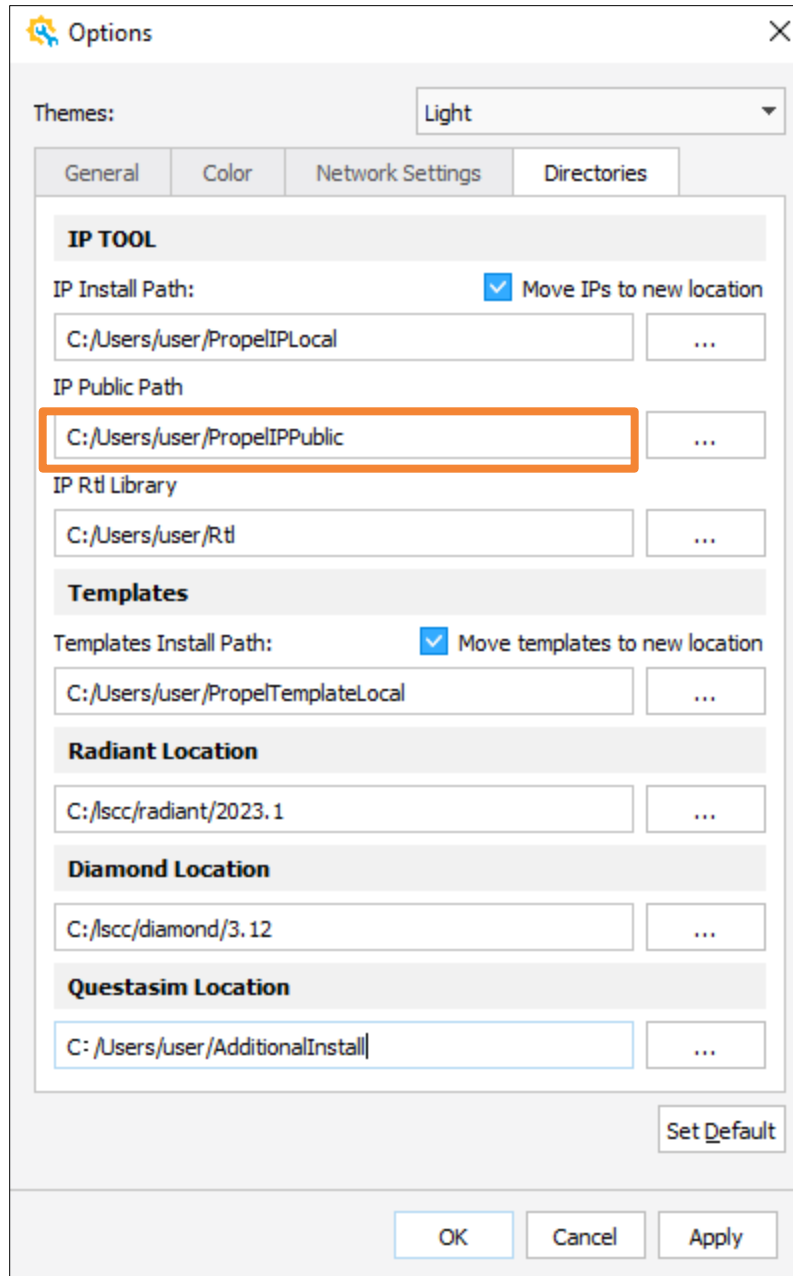

Figure 2.163. IP Public Path
- IP Public Path (Figure 2.163):
- IP RTL Library (Figure 2.163): Folders of the IP RTL library. Refer to Lattice Propel 2026.1 IP Packager User Guide \(FPGA-UG-02253\) for more details of the IP RTL Library.
Introduction for Templates (Figure 2.163):